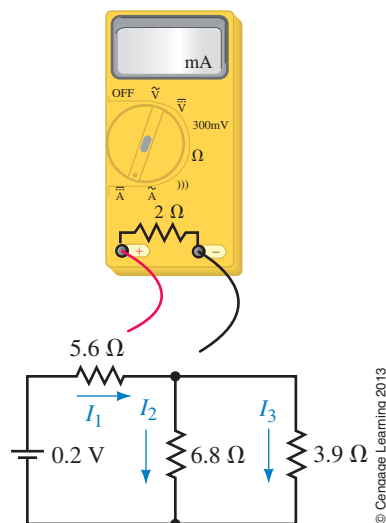

FIGURE 7-76
37. An ammeter is used to measure current in the circuit shown in Figure 7-76.
38. Suppose the ammeter in Figure 7-76 has an internal resistance of 0.5Ω :